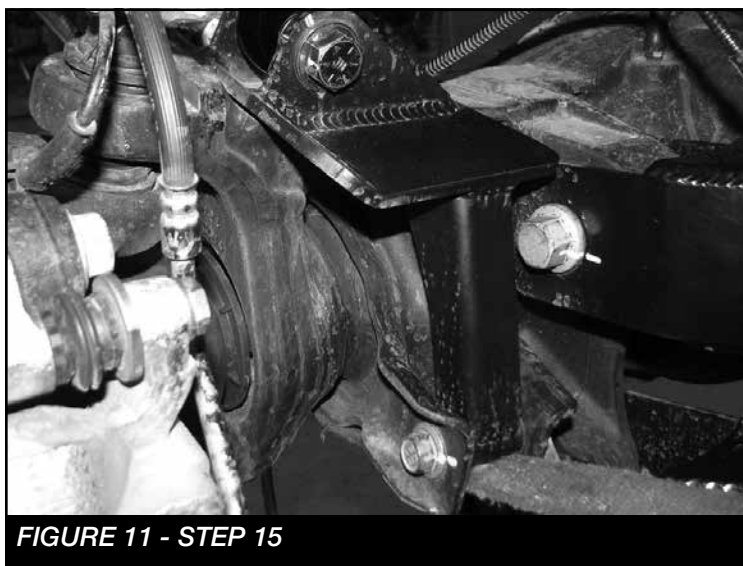

FIGURE 11 - STEP 15
15. Install FT30717 (Driver lower coilover mount) onto the driver side of the axle using the factory shock hardware at the factory shock location and M14 X 30mm bolt and washer at the lower spring perch location. Torque factory hardware to 100 ft-lbs and M14 to 160 ft-lbs. SEE FIGURE 11